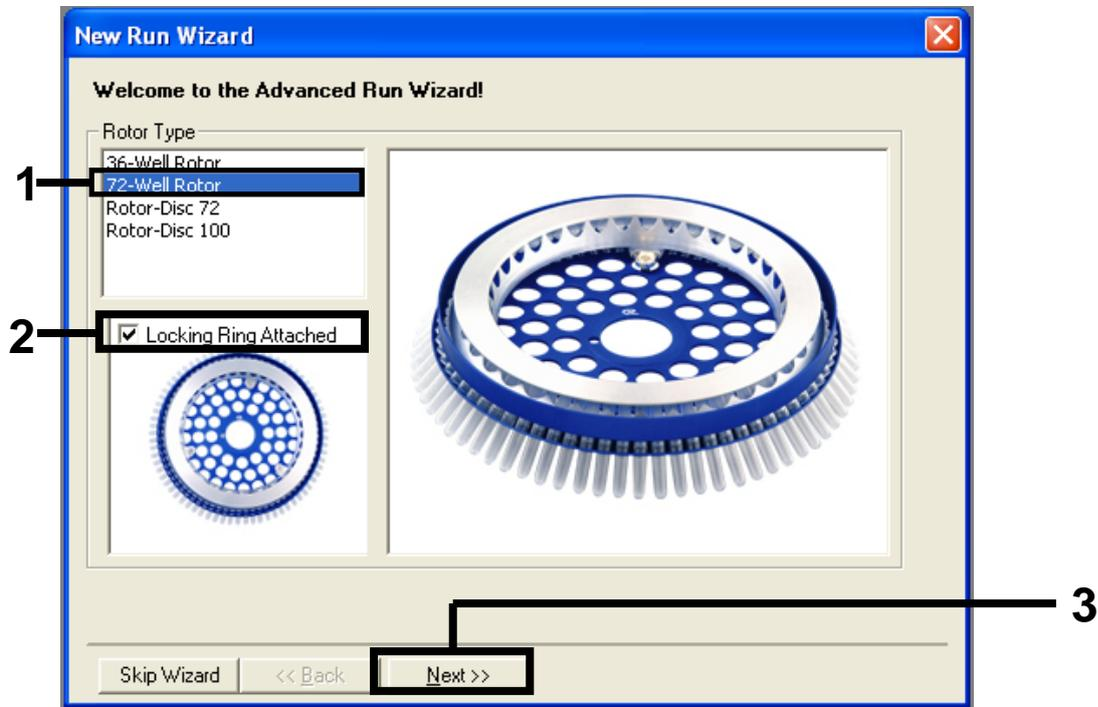

Figure 21. The “New Run Wizard” dialog box. (1 = “Rotor type”, 2 = “Locking Ring Attached box”, 3 = “Next” button).
3. Select 72-Well Rotor as the rotor type. Confirm that the locking ring is attached and check the “Locking Ring Attached” box. Click “Next” (Figure 21).